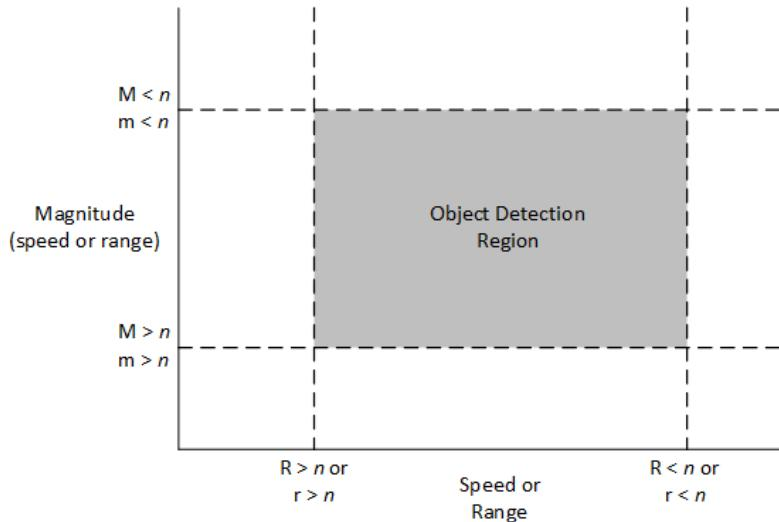

Figure 10. Speed, Range and Magnitude Filtering
**Simple Object Detection Interrupt** – a simple output which trips if an object in motion or object in range is detected. The signal is toggled on the interrupt pin (pin 3, J8 on OPS242; pin 6, J5 OPS241; pin 3, J3 on OPS243). For the Doppler (-A, -C) radar sensors, the pin is high when no motion is present and low when motion is detected. For the FMCW (-B, -C) radar sensors, the pin is high when no object is in the detected region and set low when an object is detected in the detection region. For Doppler (-A, -C) radar sensors the interrupt can be filtered on speed ( $R>n$ ,  $R<n$ ), signal magnitude ( $M>n$ ,  $M<n$ ), and direction ( $R+, R-, R|$ ). For FMCW (-B, -C) radar sensors, the interrupt can be filtered on range ( $r>n$ ,  $r<n$ ) and signal magnitude ( $m>n$ ,  $m<n$ ). Figure 10 shows how filtering can allow detection for certain objects and mask out others.